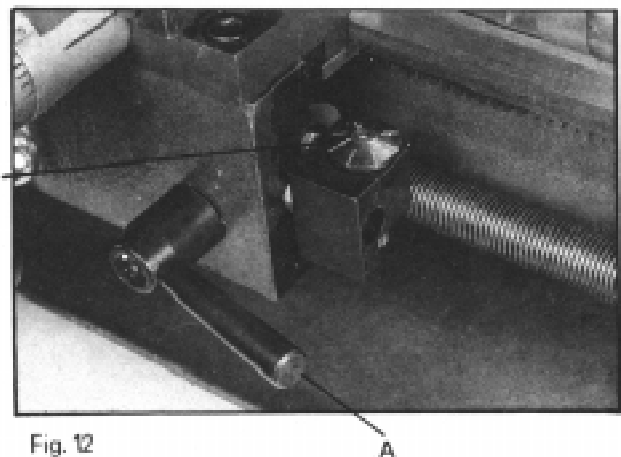

Fig. 12
Adjust the feeding direction selector to the direction you desire. Press down the handle (A) in figure 12, and continue with the automatic feeding procedure. When feeding, never try to change the feeding direction.